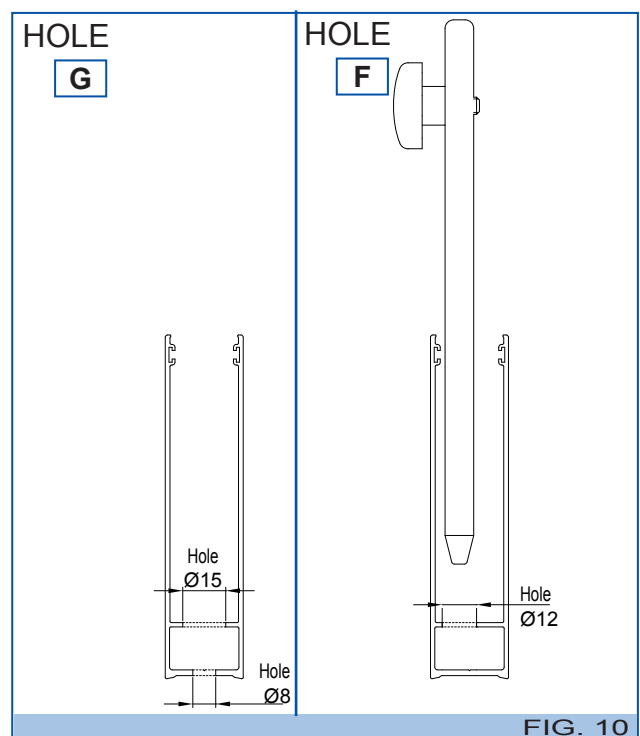

FIG. 10
14 ◦ **HOLE (F)**: make a hole of Ø 12 mm to admit the bolt (see figure 10).
Since the locking bolt is off-centre with respect to the guide (E), make the hole (F) in the proper position, so that the bolt enters the hole (see fig. 10).
15 ◦ **HOLE (G)**: make a hole of Ø 8 mm in the outer part of the guide which will come into contact with the wall, and a Ø 15 mm hole in the inner part, to admit the screw head (see figure 10).
19 ◦ With the canvas rolled up, fasten the guides to the wall with plugs, in the holes (G - Fig.10) made previously.
20 ◦ Fully open the awning and check that the bolts enter their respective holes (F- Fig.10).